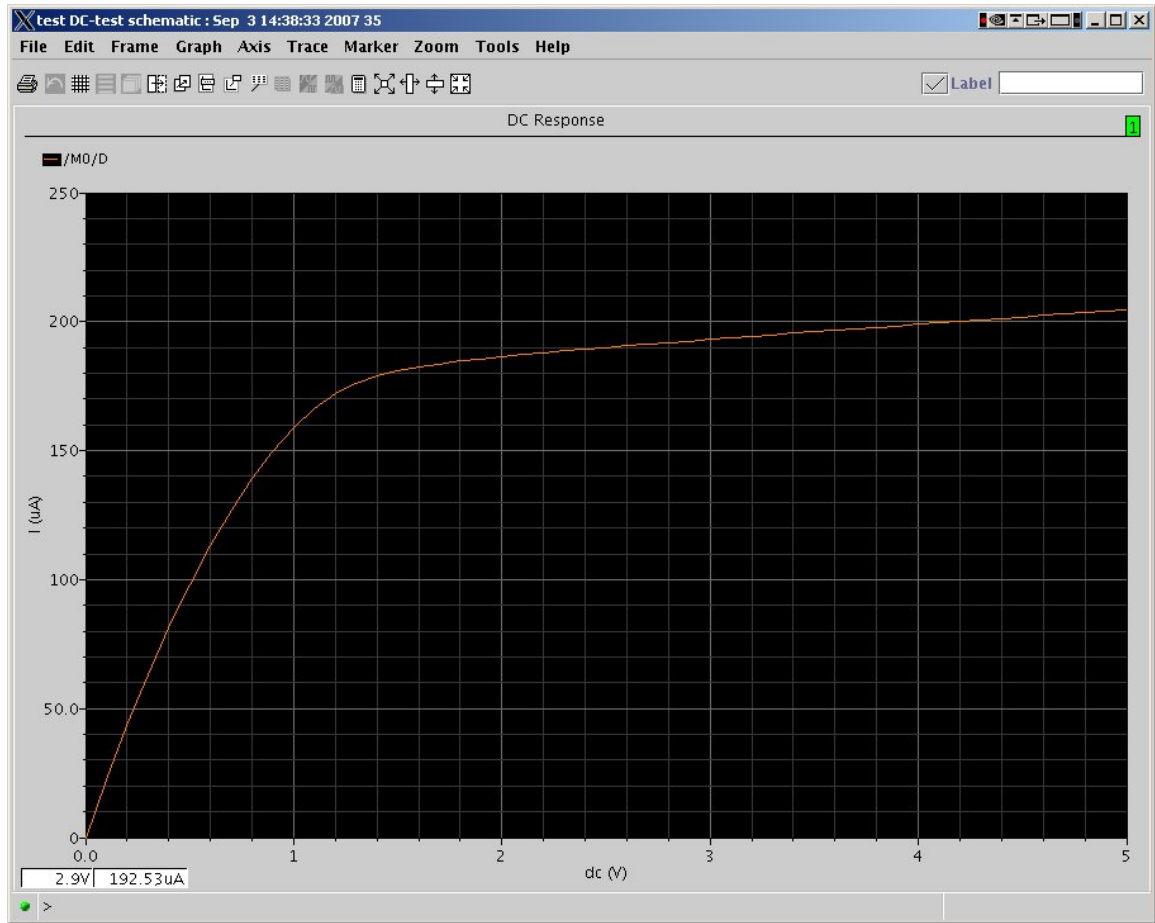

Figure 6.33: DC analysis output waveform for a single set of parameters
8. Now run the simulation. You should get a waveform output like Figure 6.33 that has a single I_{ds} curve for a 3v gate voltage (V_{gs}) and a DC sweep from 0v to 5v on V_{ds} .